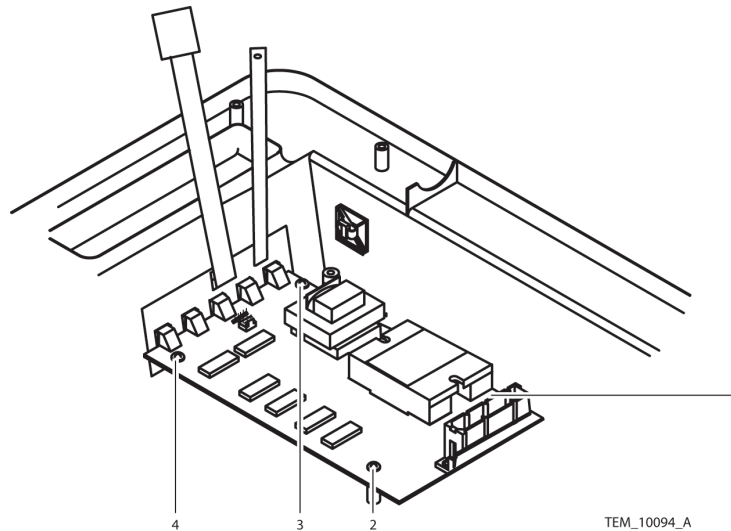

Figure 38. Control PCB Screws
10. Carefully place the replacement Control PCB into the front cover assembly and install the mounting screws. Tighten the screws to 4 to 6 in/lbs (10 to 15 cm/kg). See Figure 38.